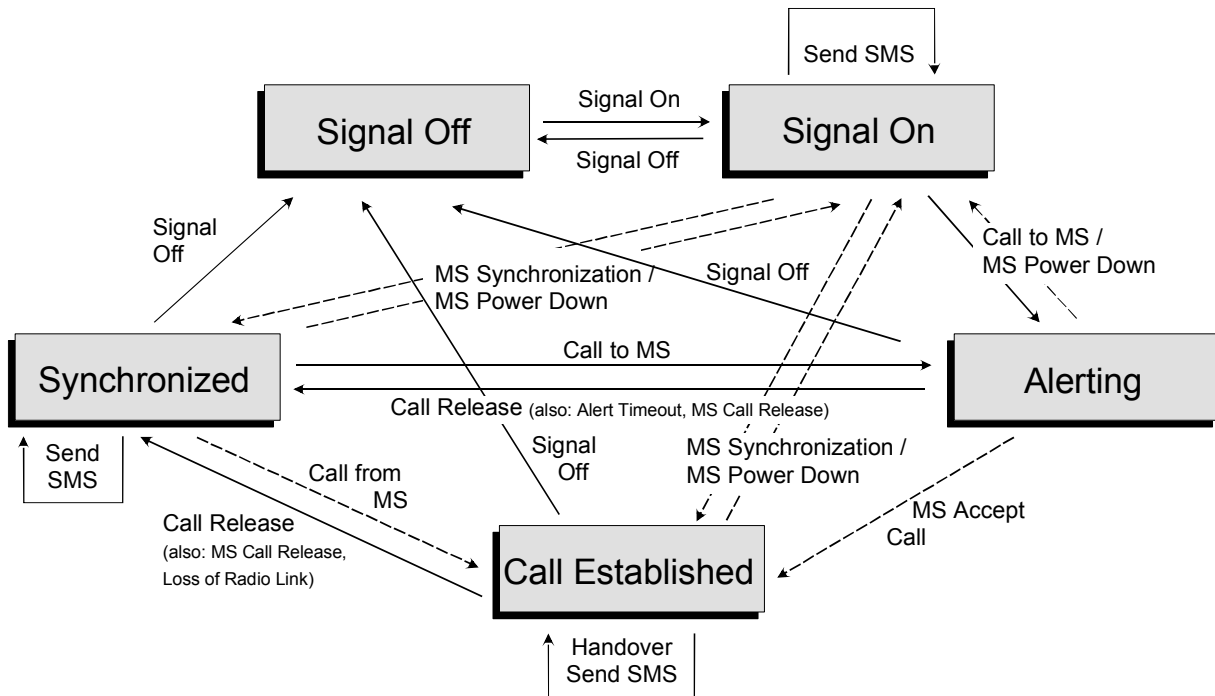

Fig. 4-45 Signalling states of the CMU (circuit switched mode)
A number of control commands which can be initiated both by the CMU (*Connect Mobile, Mobile Terminating Call*) and by the mobile station (*Call from MS, Mobile Originated Call*) switch between these states (the dashed lines in Fig. 4-45 denote processes initiated by the mobile station).
The connection scheme described in this section is designed and valid for circuit switched traffic (GSM, HSCSD or EDGE). With option CMU-K42(-K43), the CMU is also able to test the packet switched operating mode of mobile phones supporting (E)GPRS. (E)GPRS is an additional mode of the MS so that the circuit switched GSM signalling scheme of Fig. 4-45 above is complemented by a largely independent GPRS signalling scheme. For a detailed description of the CMU's (E)GPRS functionality see section GPRS Signalling on p. 4.213 ff.
The popup menu *Connection* (*Signal Off*) is opened when the function group *GSM-MS Signalling* is selected, or if the control channel signal is switched off (*Signal Off* softkey) while the system is in another signalling state. It is replaced by the *Connection* (*Signal On*) menu after the control channel signal on the CMU is switched on (Softkey *Signal On*, see Fig. 4-45).
The popup menu *Connection (Signal On)* is opened after the control channel signal of the CMU is switched on (Softkey *Signal On* in the popup menu *Connection (Signal On)*). It is replaced by the *Connection (Synchronized)* menu after the mobile station initiates a location update by itself. It is replaced by the *Connection (Call Established)* menu if the mobile station sets up a call to the CMU. It is replaced by the *Connection (Alerting)* menu if a mobile is called via the *Connect Mobile* softkey (see Fig. 4-45).